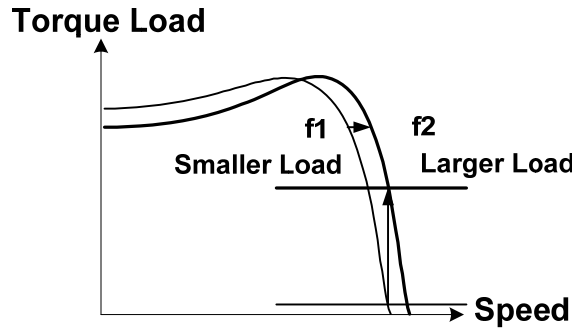

Fig. 9.2.2.2 Output Frequency with Slip Compensation
- The slip compensation is enabled when the output current is greater than motor no-load current (Cn-10). The output frequency will shift from f1 to f2 (>f1) for the positive change of load torque. (See Fig. 9.2.2.2)